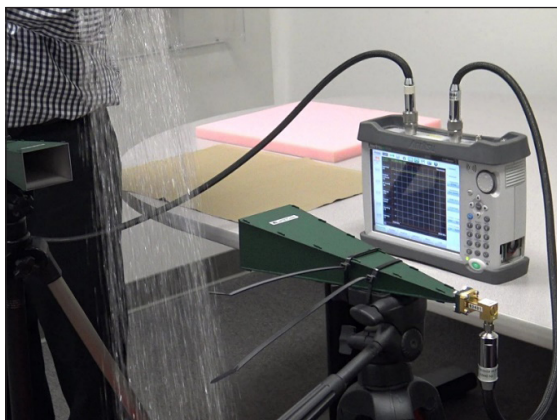

Figure 15a. ~15 cm (6") of simulated heavy rainfall
*Actual loss caused by heavy rainfall increases with distance. Measurement example distance was only ~ 15 cm (6"). See Figures 15a and 15b below.